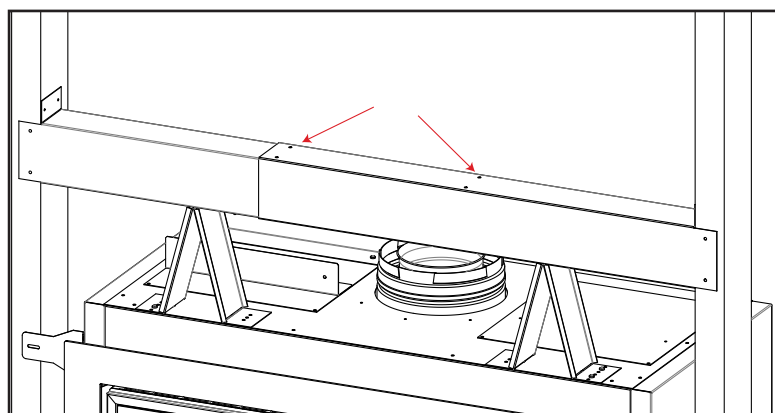

**Figure 16: Steel Stud Assembly**
- Take the two steel stud pieces and slid them into each other. The flanges of each piece should be at the end of the assembly, as well as facing upwards as shown in Figure 16.